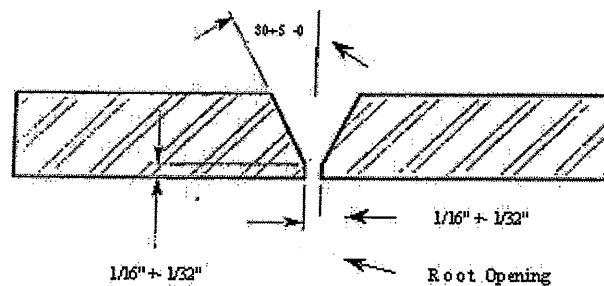

Figure 1 - Typical Butt Weld Bevel and Spacing
- 1. Bevel and Spacing (see Figure 1)